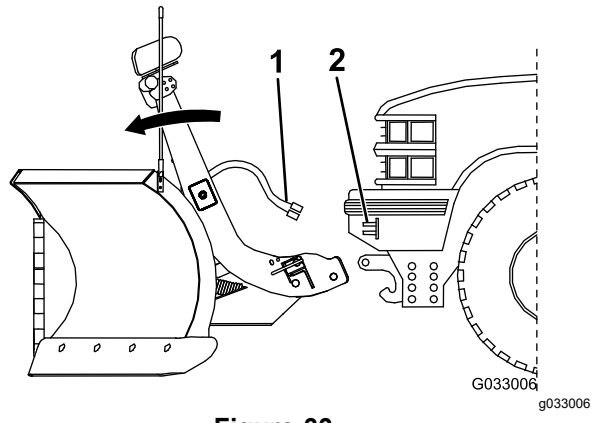

Figure 33
6. Disconnect the plow wire harnesses from the vehicle wire harnesses and secure the electrical-plug dust covers (Figure 33).